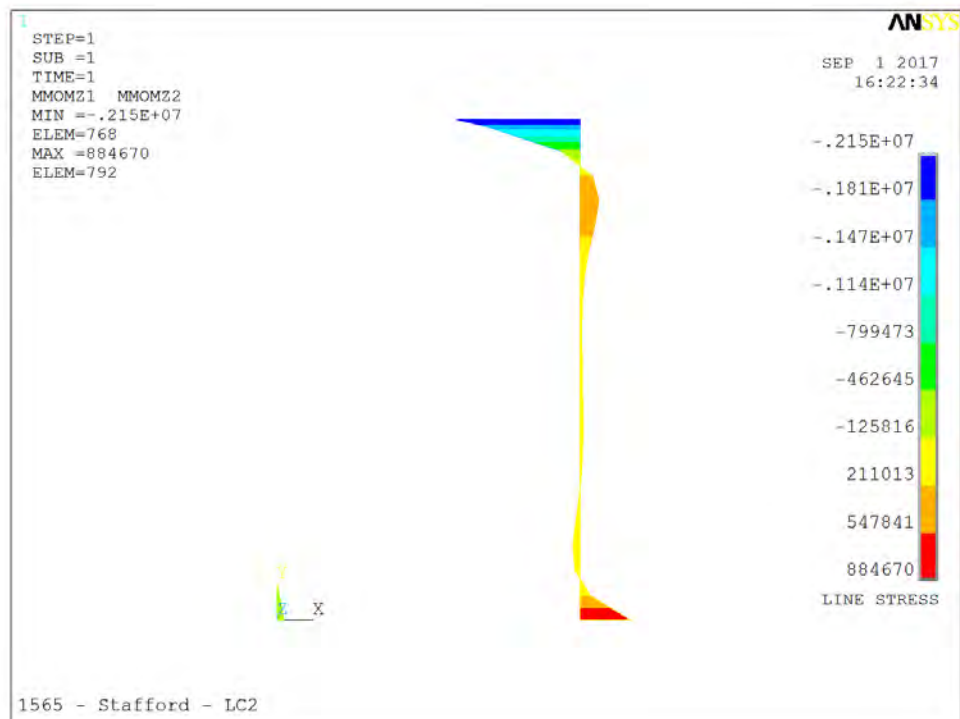

Fig. 2F
- **Fig. 2F - Wall moment (lbs-in/360)**